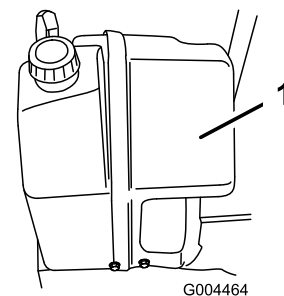

Figure 43
1. Remove the 5 fasteners on the front engine cover (Figure 43), but do not remove the cover.